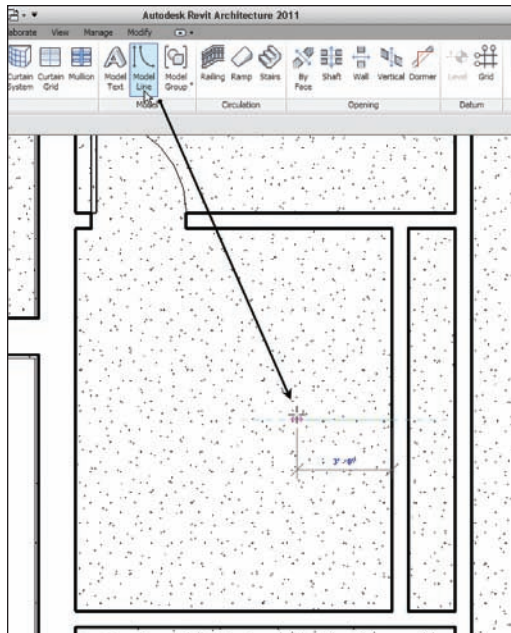

FIGURE 6.47 Drawing a line to establish the point where the floor will slope to
1. On the Home tab, select the Model Lines button, as shown in Figure 6.47.
2. Draw the line from the midpoint of the restroom's right wall, to the left 3'-0", as shown in Figure 6.47.